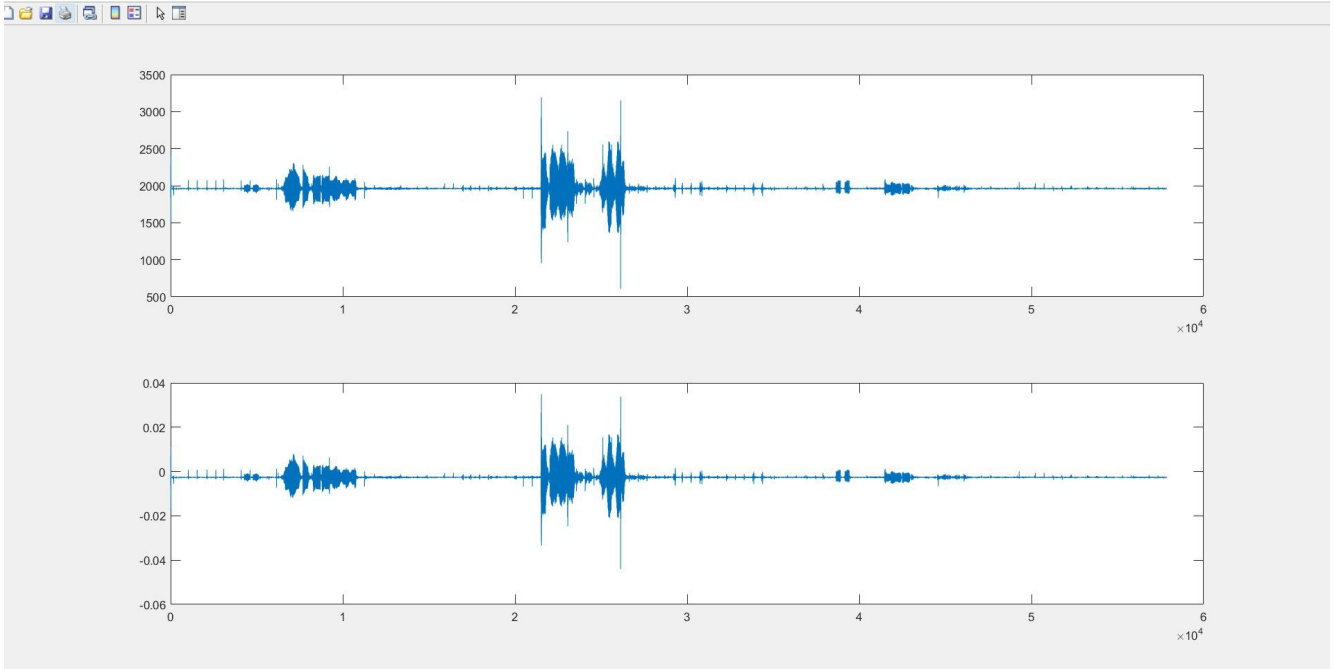

Figure 5: SD Card File Output Read
- The same speech “Hello testing UART” gives two different types of outputs on the basis of whether the robot effect is on or not. As shown in figure 5, the first disturbance is without the robot effect and the second disturbance is with the robot effect (spaced out amplitudes but having higher overall frequency due to meshing of sound), we can see the transformation in the signals before and after processing.